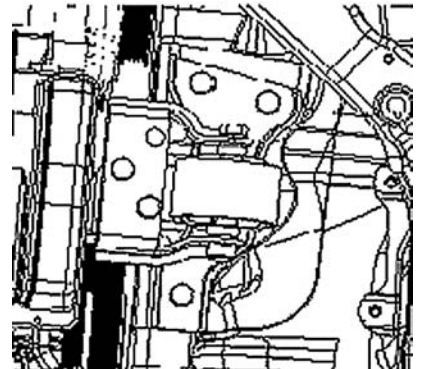

Figure 26
- (b) Remove 3 bolts. Detach the right engine mounting bracket. See (Figure 26) ;